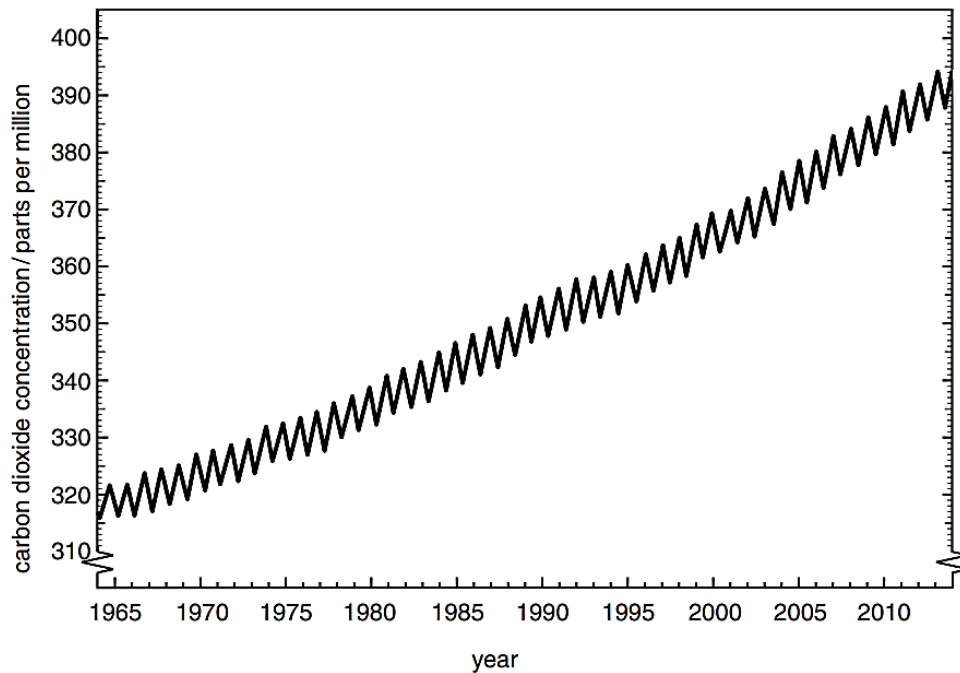

Fig. 8.1
- B8** Fig. 8.1 shows the carbon dioxide concentration in the atmosphere in the Northern Hemisphere between 1965 and 2014.
- (a) (i) Describe the general trend observed in Fig. 8.1.